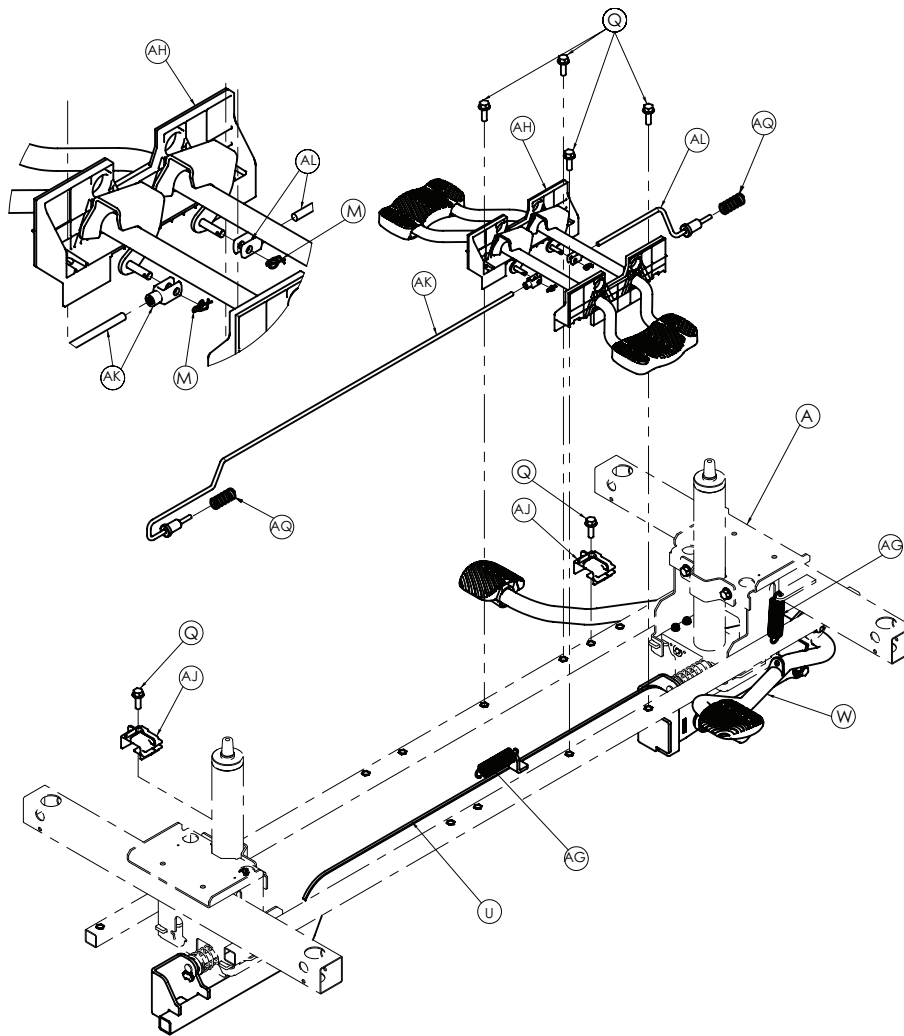

Figure 12 – Release pedal adjustment
2. Use needle nose pliers to remove the rue clips (M) from the release pedal assembly (AH) (Figure 12).
2. Use needle nose pliers to remove the rue clips (M) and disconnect the release rods (AK, AL) from the release pedal assembly (AH) (Figure 12).
3. Use a 13 mm socket wrench with a 3/8" drive extension and a 3/8" drive ratchet to remove the hex head bolts (Q) that secure the release pedal assembly (AH).